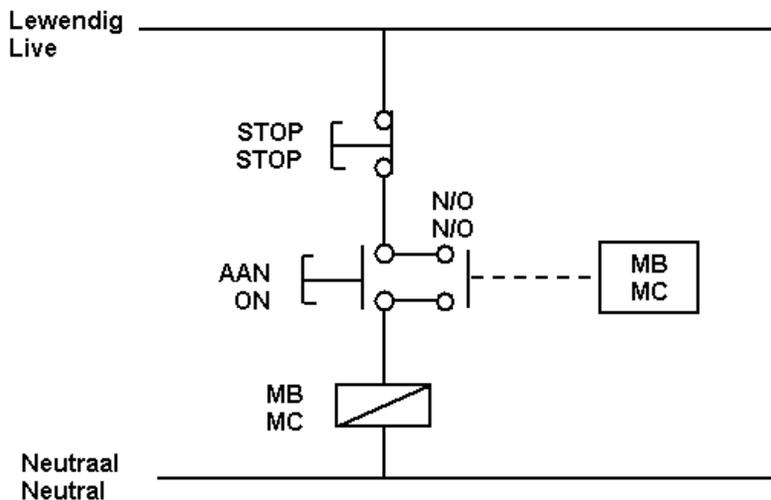

FIGURE 9.4 – DIRECT-ON-LINE-STARTER
9.6 Draw the ladder logic diagram of the following direct-on-line-starter shown in FIGURE 9.4.